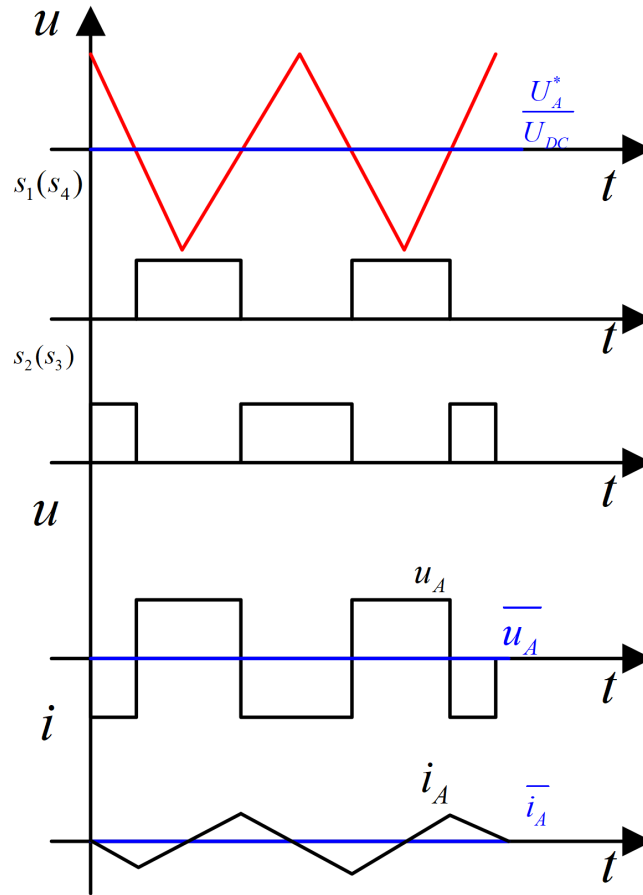

Figure 1.4: Waveform of the command signals when $U_A^* = 0V$
11.) * The waveform of the command signals when $U_A^* = 0V$ is shown in Figure 1.4.